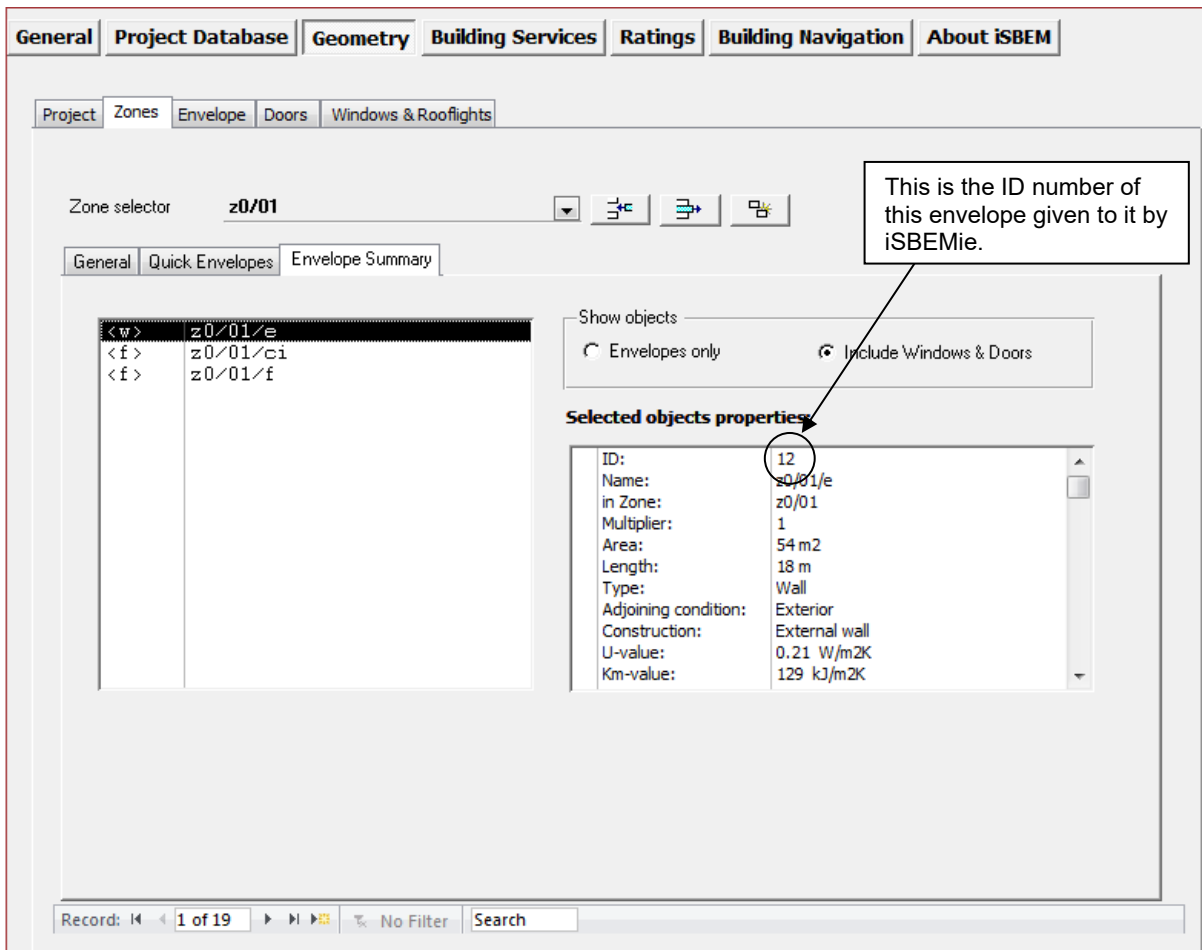
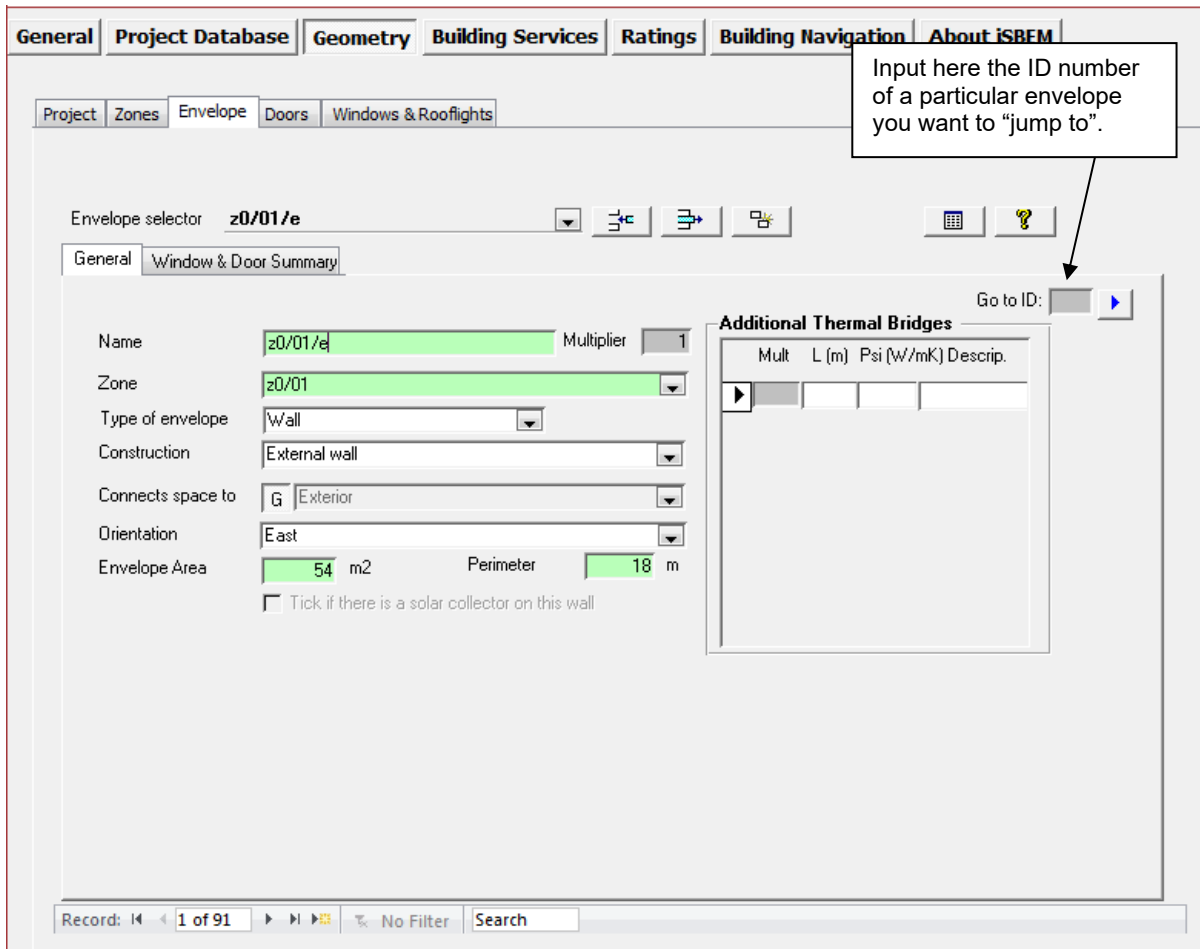

Figure 19: Envelope Summary sub-tab
Figure 20: A wall being defined in the General sub-tab of the Envelope tab in the Geometry form
The envelope elements of a zone can be viewed in the *Envelope Summary* sub-tab of the *Zones* tab, shown in Figure 19, (see Section 3.4.4: Defining envelopes – Envelope tab for details on how the envelopes for each zone are created). Depending on which radio button is selected in the 'Show Objects' section, you can choose to either view only the envelopes attached to the zone or view the zone's envelopes as well as any windows or doors assigned to the envelopes. The zone's envelopes are listed in the left-hand side window in terms of their names and types of envelope (<w> for wall, <f> for floor/ceiling, and <r> for roof). If any of the envelopes, windows, or doors, are highlighted in the left-hand side window, more details about that object appear in the 'Selected objects properties' window, such as its area, construction, and the condition of the space it connects the zone to. Also included in the details is the ID number given by iSBEMie to this envelope. This ID number can be used to locate this particular envelope quickly, using the "Go to ID" field in the *Envelope* tab, should any editing of its parameters be required (see Section 3.4.4: Defining envelopes – Envelope tab and Figure 20).
The main *Envelope* tab, shown in Figure 20, contains two sub-tabs:
11. Go to ID – this parameter can be used to 'jump to' a particular envelope quickly. The ID number of an envelope is visible among the envelope details displayed in the *Envelope Summary* sub-tab of the zone to which this envelope belongs. For example, if while reviewing the details in the *Envelope Summary* sub-tab, an error was detected in the description of a particular envelope, you can make a note of its ID number (Figure 19), go to the *Envelope* tab, type the ID number in the box, and press the arrow key . This will take you to the *General* sub-tab of that particular envelope where you can correct the error (see Envelope Summary sub-tab in section 3.4.3: Defining zones – Zones tab).
Figure 20 shows a wall being defined.